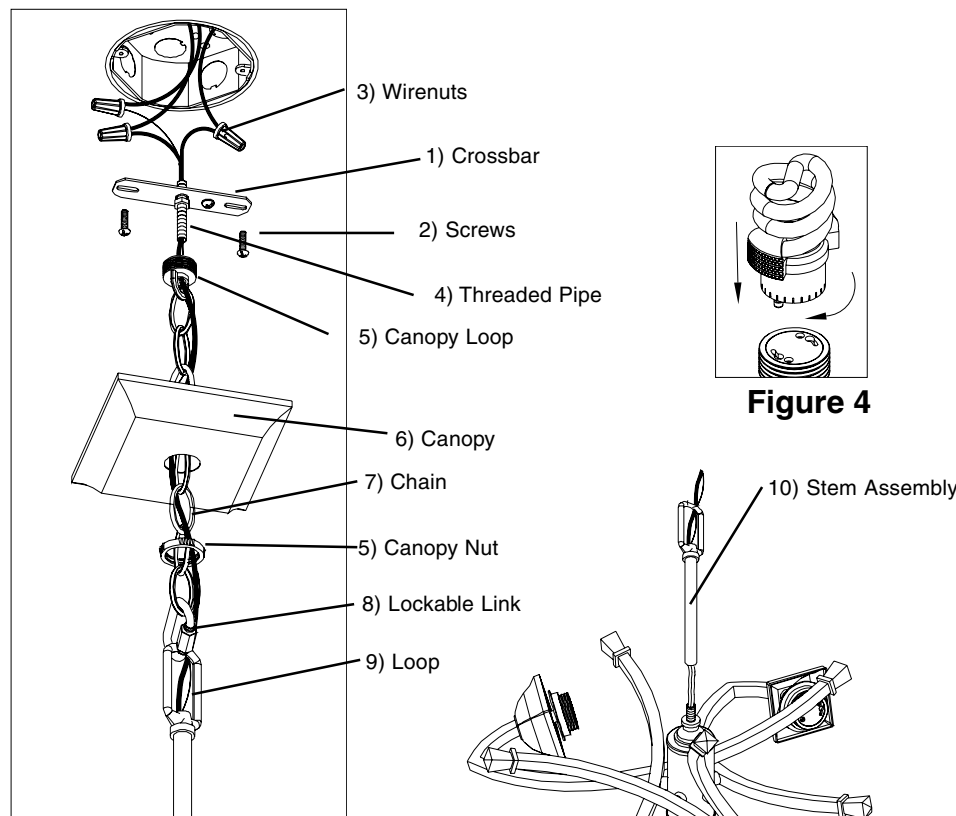
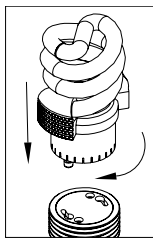

Figure 2
Figure 4
4. Assemble mounting hardware: Thread Threaded Pipe (4) about 1/2" into center hole of Crossbar (1). Hold short end of Threaded Pipe and place Canopy (6) over opposite end of Threaded Pipe and place Canopy (6) over opposite end (Note: Crossbar will be inside of canopy). See Fig. 2.
5. To determine desired length of chain use Lockable Link (8) and hook Chain temporarily to Loop (9). Hold fixture up to ceiling to determine desired length of Chain and remove links if needed. Note: Use pliers to remove links to adjust Chain to desired length or call Technical Support to purchase additional chain. Attach end link of Chain (7) to Loop (9) with Lockable Link (8). Route the ground & fixture supply wires through every fourth link of chain and through center of 1-1/2" Threaded Pipe (4) in Crossbar. Trim ground & fixture supply wires to extend approximately 6" beyond Threaded Pipe and strip 1/2" insulation from ends of wires. See Fig. 2.
6. Take fixture assembly by the Chain (7), loosen Canopy Nut (5) completely and slide Canopy down. Have one person help to support fixture while mounting Crossbar (1) to junction box with two 1-1/2" Screws (2). See Fig. 2.
7. With the power turned off, ground fixture by connecting the bare copper ground wire from the fixture to the bare copper ground wire from the junction box using a Wirenut (3). (If house wiring does not include a ground wire, consult your local electrical code for approved grounding methods).
8. Use Wirenuts (3) to connect brown or clear fixture wire to the black power supply wire and brown or clear ribbed fixture wire to the white power supply wire. See Fig. 2.
9. Raise Canopy (6) up to ceiling and fully thread Canopy Nut (5) onto Canopy Loop (5).
10. Unscrew Lock Ring (11) from the Socket (12).
11. Place the Glass Shades (14) over Sockets (12) and reinstall Lock Rings (11).
12. To install lamps (13)- insert pins into Socket (12) and rotate clockwise until secure. See Fig. 4.
4. Ensamble el herraje de montaje: Rosque el Tubo Roscado (4) alrededor de 1/2" en agujero de centro de la Barra Transversal (1). Sostenga el extremo corto del Tubo Roscado y coloque el Espaciador de Sobrecielo (6) sobre el extremo opuesto (Nota: La Barra Transversal estará dentro del Espaciador de Sobrecielo). Vea Fig. 2.
5. Para determinar la longitud deseada de la cadena use el Eslabón de Cerradura (8) y enganche la Cadena temporalmente al Lazo (9). Sostenga el luminario hasta el techo para determinar longitud deseada de la Cadena y si necesario, quite eslabones. Nota: Use alicates para quitar los eslabones y ajustar la Cadena a la longitud deseada o llame a Soporte Técnico para comprar cadena adicional. Sujete el eslabón final de la Cadena (7) al Lazo (9) con el Eslabón de Cerradura (8). Encamine los alambres de tierra y de suministro de electricidad del luminario a través cada cuarta eslabón de la cadena y por el centro del Tubo Roscado de 1-1/2" (4) en la Barra Transversal. Corte los alambres de hacer tierra y los de suministro de electricidad del luminario para que extiendan aproximadamente 6" más allá de Tubo Roscado y quite 1/2" del material aislante del extremo de los alambres. Vea Fig. 2.
6. Agarre el ensamblaje del luminario por la Cadena (7), suelte la Tuerca del Espaciador de Sobrecielo (5) totalmente y deslice el Espaciador (6) hacia abajo. Haga que una persona ayude a sostener el luminario mientras este montando la Barra Transversal (1) a la caja de ensambladura con dos Tornillos de 1-1/2" (2). Vea Fig. 2.
7. Con la electricidad apagada, ponga a tierra el Luminario conectando el alambre descubierto de cobre de hacer tierra del luminario al alambre descubierto de cobre de la caja de ensambladura usando un Capuchón de Alambres (3). (Si el alambrado de la casa no incluye un alambre de hacer tierra, consulte su código eléctrico local para métodos aprobados de hacer tierra.)
8. Use Capuchones de Alambres (3) para conectar el alambre marrón o transparente del luminario al alambre de suministro de energía negro y el alambre del luminario acanalado marrón o transparente al alambre de suministro de electricidad blanco. Vea Fig. 2.
9. Levante el Espaciador de Sobrecielo (6) hasta el techo y totalmente enrosque la Tuerca del Espaciador de Sobrecielo (5) al Lazo del Espaciador de Sobrecielo (5).
10. Desenrosque el anillo de cierre (11) del enchufe (12).
11. Coloque la Pantalla de Cristal (14) sobre el enchufe (12) e reinstale el anillo de cierre (11).
12. Para Instalar la lámpara (13) – inserte las clavijas en la base del enchufe (12) y gire hacia su derecha hasta que quede segura. Vea Fig. 4.